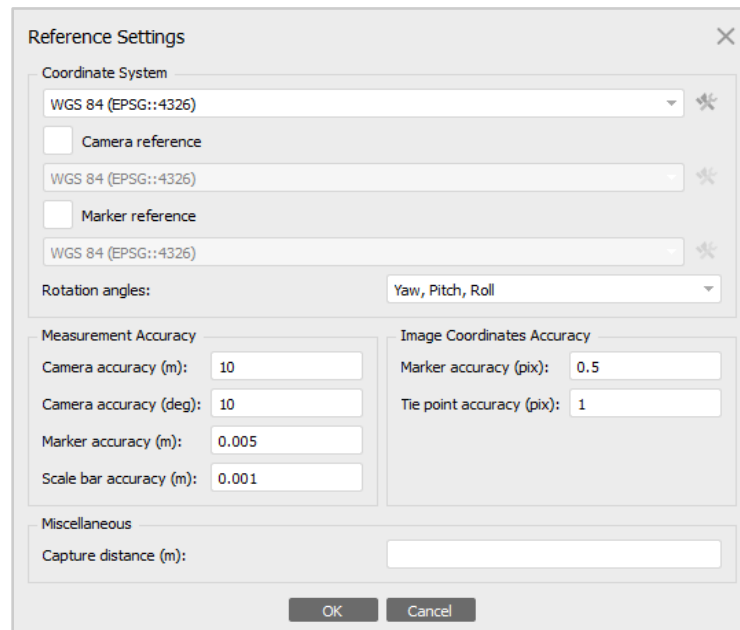

Figure 29. Reference Settings window with WGS 84 (EPSG:: 4326) coordinate system described in step 3.
3. A new window will appear named Reference Settings. Under Coordinate System, change the setting from Local Coordinates (m) to WGS 84 (EPSG:: 4326) using the drop-down menu. This is the setting associated with the GPS used in the field during image acquisition. Change settings according to Figure 29, and click OK.